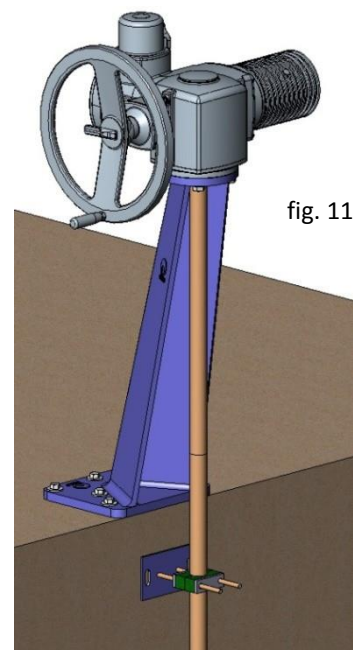

fig. 11
- Possibility of leaning floor stand (fig. 11).